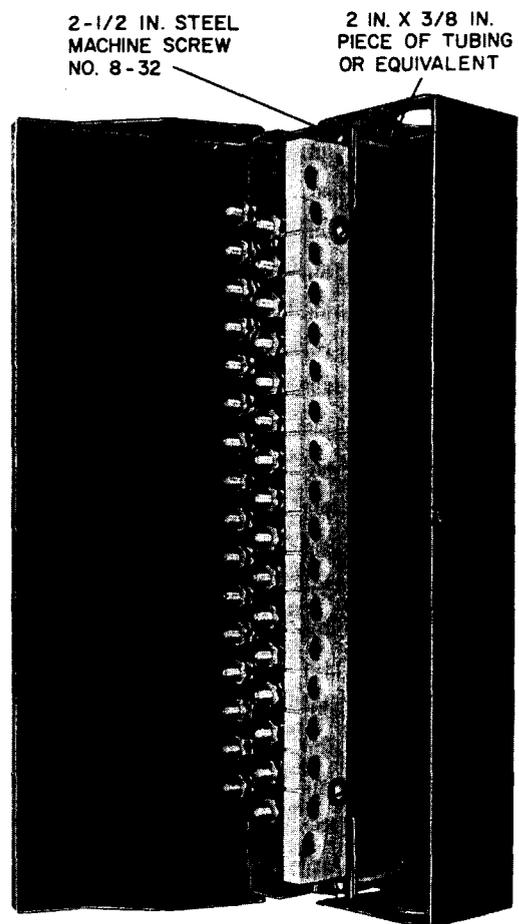

Fig. 4—Temporary Mounting of Adapter
- (1) Remove proper entrance hole knockout.
- (2) Assemble adapter and connecting block.
- (3) Mount adapter temporarily in box. This facilitates terminating inside wiring cable conductors. (See Fig. 4.)
- (4) Terminate cable as outlined in Part 4.
- (5) Complete mounting by detaching adapter from box and removing tubing, or equivalent, used to mount the adapter temporarily. (See Fig. 4.)
- (6) Insert lower permanent mounting screw and lower U-shaped slot of the adapter on this screw.
- (7) Insert other lower permanent mounting screw.
- (8) Insert upper mounting screws.
- (9) Tighten both upper and lower mounting screws.